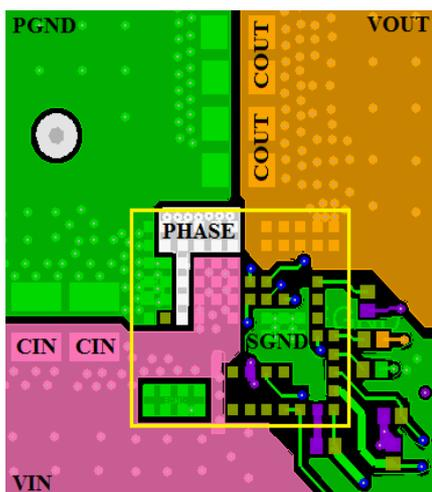

Figure 2. Layout Example - Top Layer
2. Place the input capacitors and high frequency decoupling ceramic capacitors between VIN and PGND as close to the module as possible. The loop formed by the input capacitors, VIN, and PGND must be as small as possible to minimize high frequency noise. Place the output ceramic capacitors close to VOUT. Use a copper plane to connect the output ceramic capacitors to the load to avoid any parasitic inductances and resistances. See Figures 2 and 3 for example layouts.